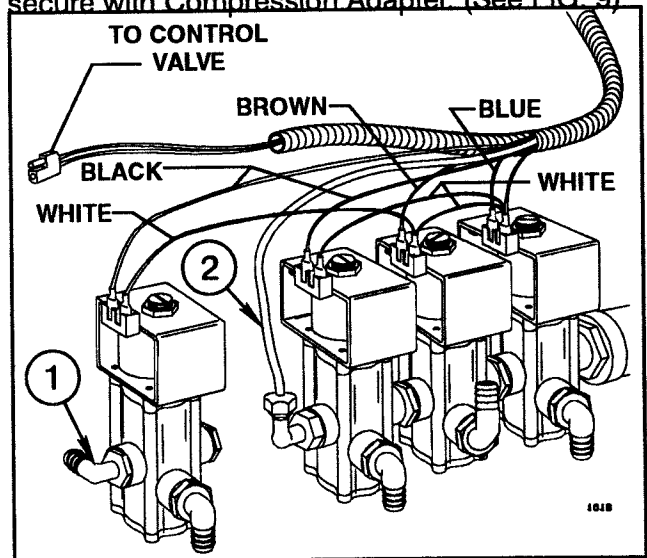

Figure 9
23. Install Gauge Tube into the 90° street elbow at through port of triple solenoid assembly and secure with Compression Adapter. (See FIG. 9)